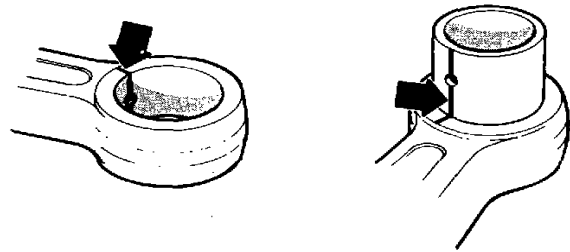

Fig. 58. Fitting the connecting rod bushing
2. Press in the new bushing using the same tool. The bushing is to be fitted according to fig. 58.
**NOTE!** Make sure that the oil hole in the bushing is aligned with the oil channel in the connecting rod. Draw a line over the holes in the bushing and the connecting rod using a felt pen (fig. 58). Check after pushing in the bushing that the oil channel is open.